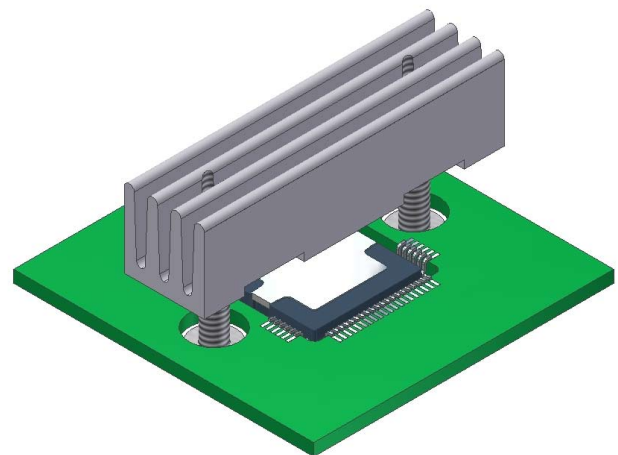

Figure 2 – User Control Features
Figure 2 shows the user control features of the DB64. The PWM duty cycle is controlled with the potentiometer (1 in figure 2). The power LED (2) will illuminate when the 12V supply is connected. The DB64 will power up with the SA306 disabled. The enable button (3) will toggle the SA306 on and off with the LED (4) illuminating to indicate the enable status. Direction of the motor is similarly controlled with the button (5) and is indicated by the LED (6).